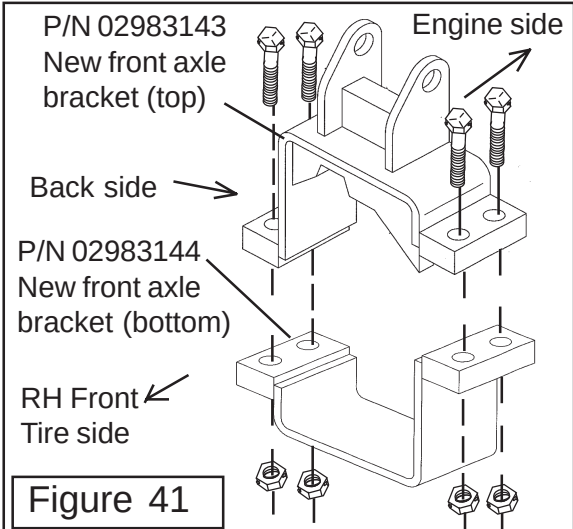

Figure 41
This kit is tied to the oil supply at the Lift Cylinder for the boom, the upper pressure supply hose (# 4 hose with blue plastic tie) is tee'd to the "B" port of valve for the lift cylinder and connected to the Base end of the stabilizer cylinder. The lower Hose is connected to the rod end of the cylinder and is connected to the tank return hose at the tank. Install the cylinder with the rod end toward the axle and the base end of cylinder up to the bracket (item 3) bolted to tractor frame. Number 4 hose with a blue plastic tie at the front side of tank (See Figure 41 through 48).